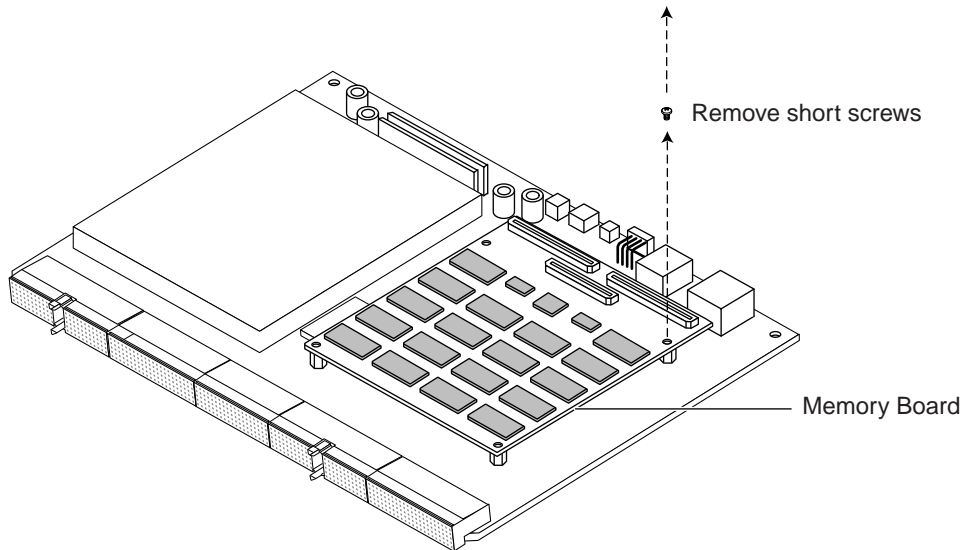

FIGURE A-8 Removing the Mounting Screws from the Currently Installed Memory Board
3. Using a Phillips No.1 screwdriver, remove the screws and washers from the base memory board (see FIGURE A-8).